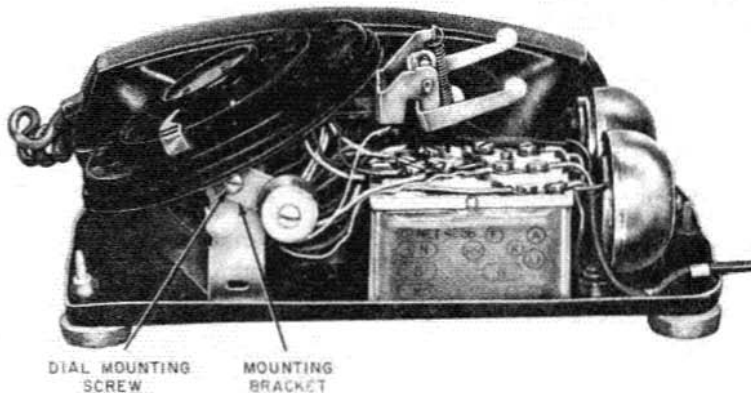

Fig. 8—KS-20419L1 Buzzer Mounted in 500-Type Telephone Set
- (h) Place the KS-20419L1 buzzer inside the telephone set where it will not interfere with electrical or mechanical operation of the telephone set (Fig. 8 and 9). The buzzer circuit is insulated from the case and bracket so that the buzzer can be attached to metal parts of the set.